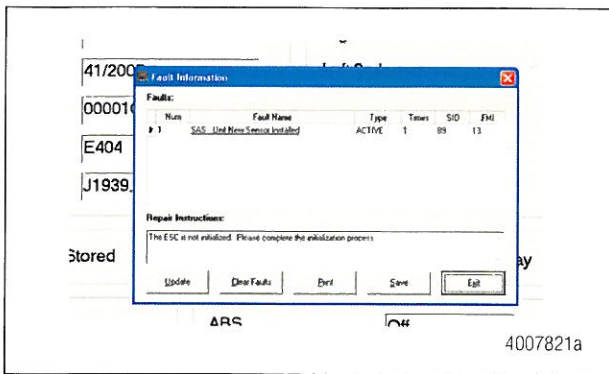

Figure 11
4. For new vehicles or vehicles where the SAS has been replaced, the message box should show the Steering Angle Sensor code 89-13. Check the code to ensure it is correct. Figure 11.